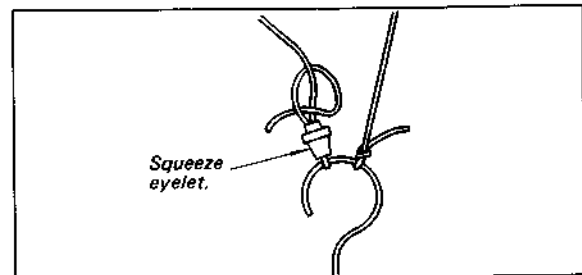
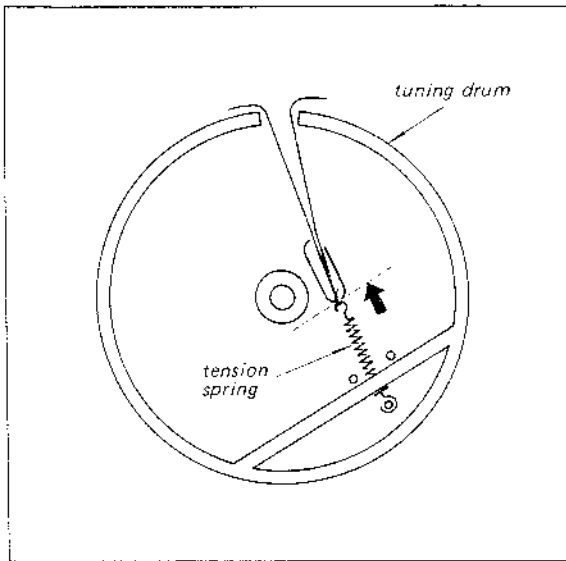

Fig. 2-8. Dial cord finish
Fig. 2-9. End of dial cord stringing
3. At the finish point, pass the doubled end of the cord through the eyelet and tighten the cord and squeeze the eyelet so that the string is under tension (See Fig. 2-8).
Note: The end of spring should be near the center of tuning drum as shown in Fig. 2-9. Make two knots in the cord to keep it from slipping out of the eyelet (See Fig. 2-8).